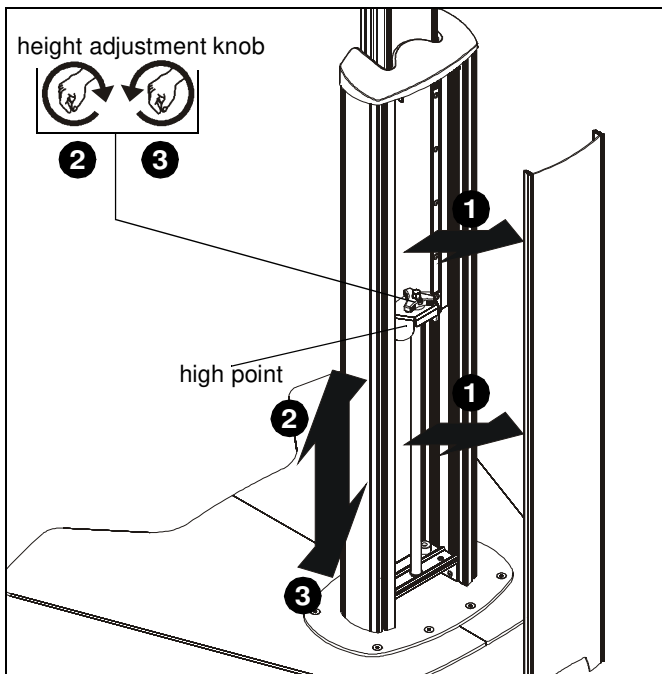

Figure 14
1. Remove cable cover (G) to expose height adjustment knob.
2. Turn height adjustment knob clockwise to raise display. (See Figure 14)
3. Turn height adjustment knob counterclockwise to lower display. (See Figure 14)